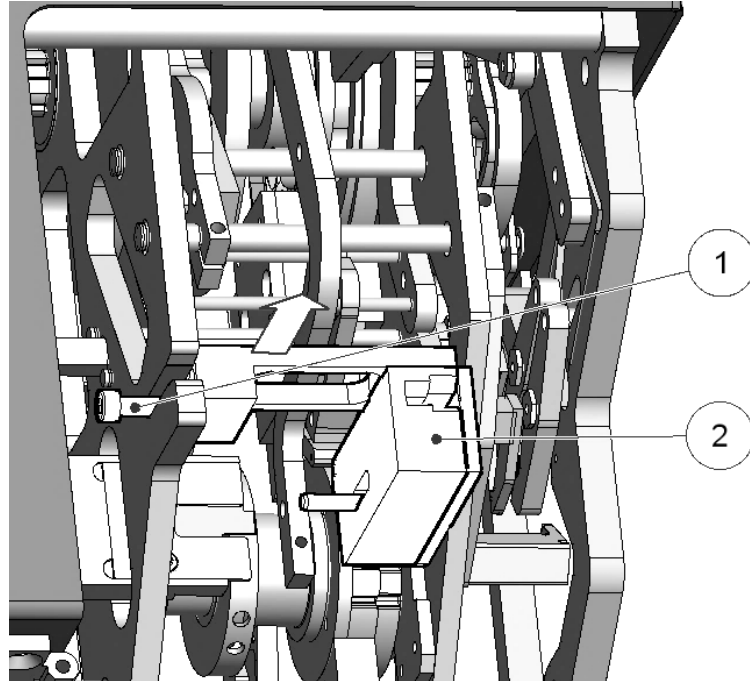

Fig. 20: Magazine
- Loosen the screw with an Allen key size 4 (see fig. 20, item 1).
- Remove the magazine at the top (see fig. 20, item 2).